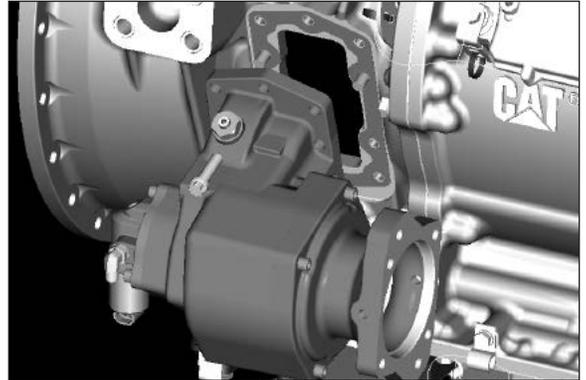

Figure 34
- Position the PTO and secure it with the top cap screw provided (**Fig. 34**).